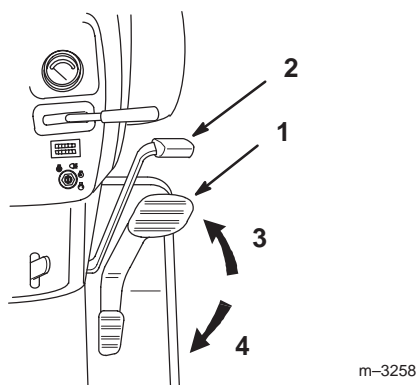

Figure 17
4. Place your foot on the traction control pedal and slowly press on the top of the pedal to move forward, or on the bottom of the pedal to move backward (Fig. 17).